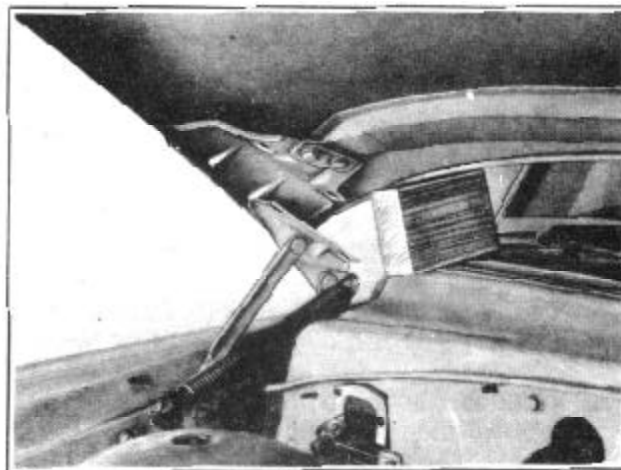

FIGURE 105
1. Raise the hood, place a block of wood between hood and cowl panel to support the hood when the hood hinge bolts are removed, Figure 105. It is advisable to mark the original position of the hood hinge before removing to facilitate the installation of the new hinge.
7. Place a block of wood between rear of hood and cowl panel to support hood, see Figure 105, and remove the two screws attaching hood hinge support to hood.